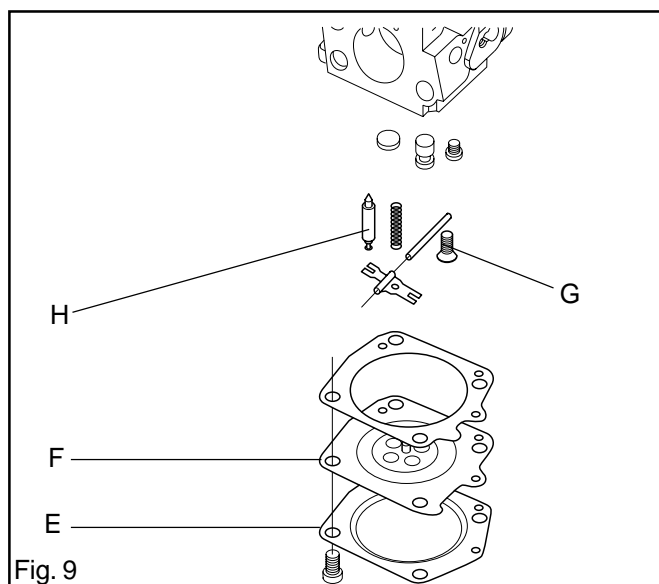

Fig. 9
7. Remove the cover (E) over the metering unit and carefully remove the metering diaphragm (F) and gasket. See fig. 9.
8. Remove the screw (G) and take out the needle valve (H) with lever, spindle and spring. See fig. 9.